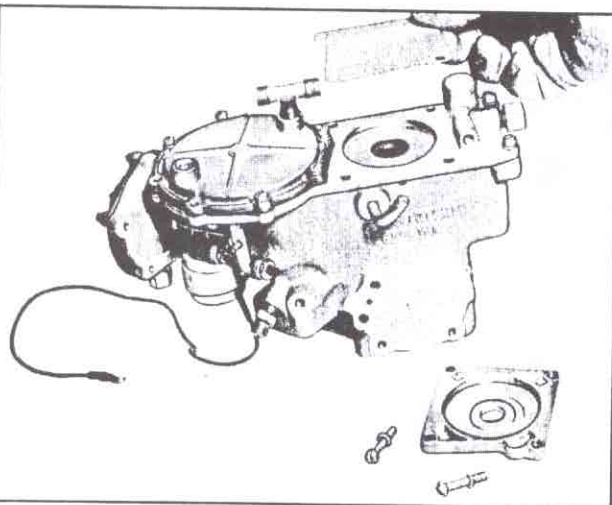

Fig. 133—Removing Bowl Vent Cover and Screen
6. Remove the two remaining screws attaching the bowl vent cover and remove the cover and screen (fig. 133). It is good practice to inspect and clean the screen and replace immediately to minimize the possibility of dirt entry to the fuel meter.